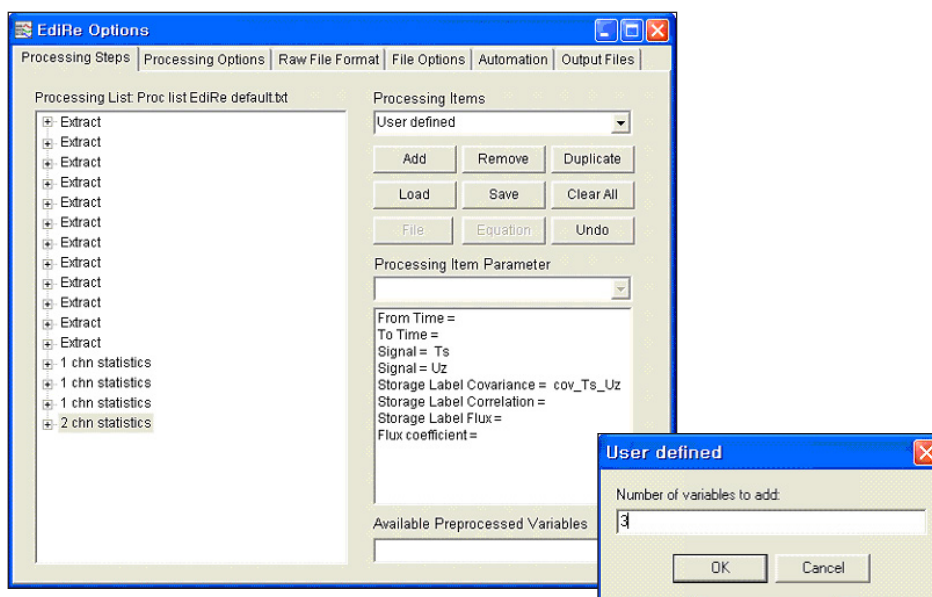

Figure 13: In the User defined instruction, enter 3 for a number of variables to be used in the equation.
23. Once the mean values for e_hmp, t_hmp and press are computed, we can use “User defined” instruction from “Processing Items” to compute the mean air density rho_mean. Figures 13 through 16 show how to compute the mean air density value using “User defined” instruction, and finally compute the sensible heat flux coefficient rho-Cp.